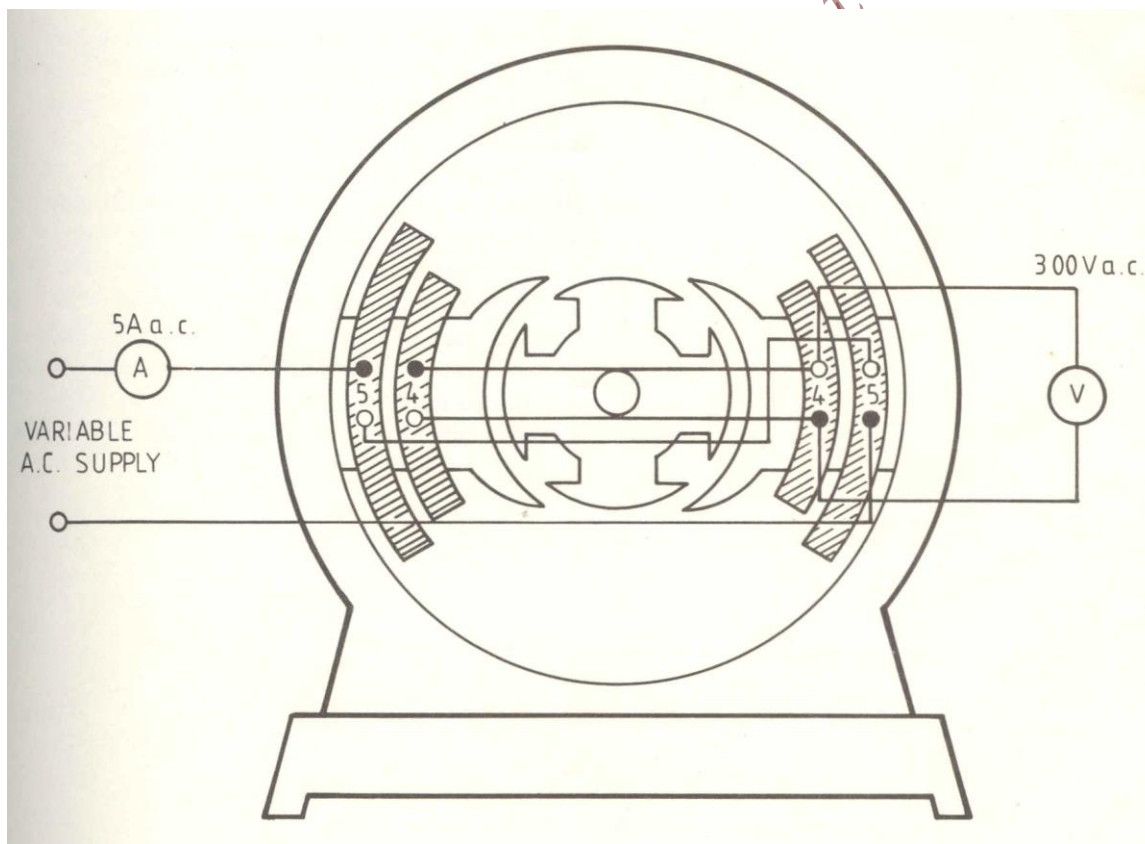

Figure 1
1. Make the connections as shown in Figure 1